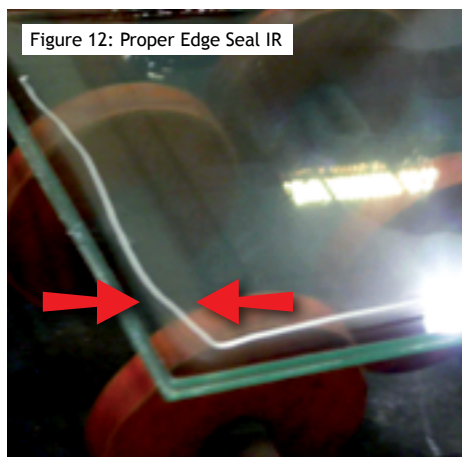

Figure 12: Proper Edge Seal IR
- The prepress appearance for laminates made with IR nip roll lines should have a minimum of 0.75" clear edge seal around the entire perimeter (2 cm). While the outside of edge of the laminate should be clear the interior will likely still be hazy (translucent) after prepressing due to residual surface pattern (see Figure 12). The optimum prepress temperature will be at the lower end of the recommended range.